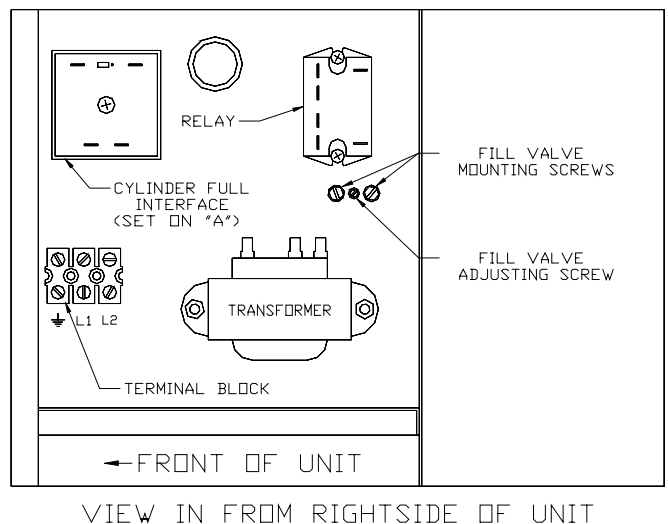
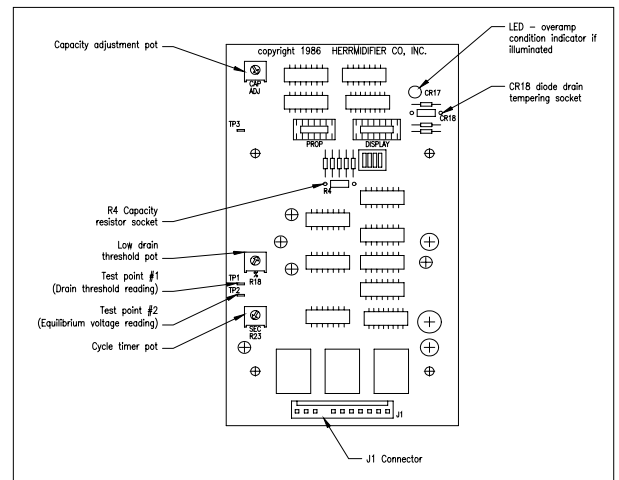

Figure 9
Figure 12
10. All units are equipped with a drain-tempering feature which mixes cold fill water with the hot drain water to protect drain piping. Depending on your fill water pressure, some adjustment of the fill metering valve may be necessary to insure drain water of less than 140 degrees F (See Figure 9). To deactivate, remove diode from socket CR18 from circuit board (See Figure 12).
Each circuit board (See Figure 12) features three test points to aid in the troubleshooting process. Each of these test points works on a 0-4 VDC scale. "0 VDC" = 0%. "4 VDC" = 100%. All readings are between the test point and ground (Molex J1, terminal 11 [far right of molex connector, hours wire #11]).
Check strainer and fill valve for clogs. Turn adjusting screw (fig. 9, page 10)
Check water supply. If it is softened, increase the drain threshold pot, "% adj." (R18), up to 92%. (See Figure 12)
Unit filling slower or at the same rate as the water is boiling, causing over concentration and foaming. Check restriction in fill line. Adjust the metering fill valve to allow greater flow of water. (See Figure 9)